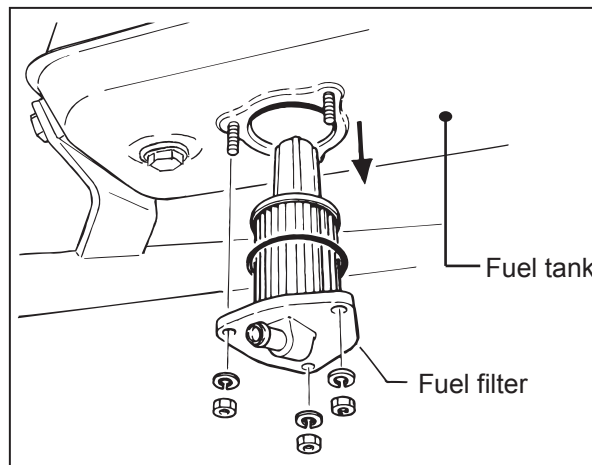

Fig. 7
- * Remove the fuel filter cap and inspect clean fuel tank.(Fig.7)